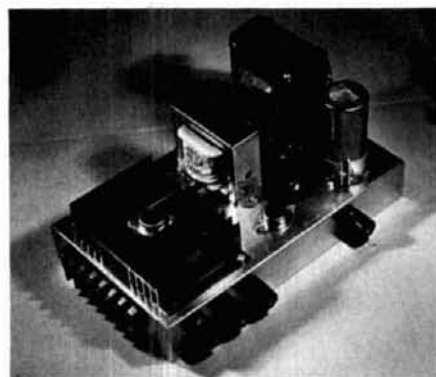

fig. 2. Completed power supply.
**Miscellaneous:** four chassis-mounted fuseholders, heatsink for U1 (see fig. 2), chassis or cabinet, output terminals of your selection (most will use binding posts or barrier strips).
Figure 2 shows the construction of the power supply. Although I used a simple aluminum chassis and bottom plate, you might opt for a cabinet. My